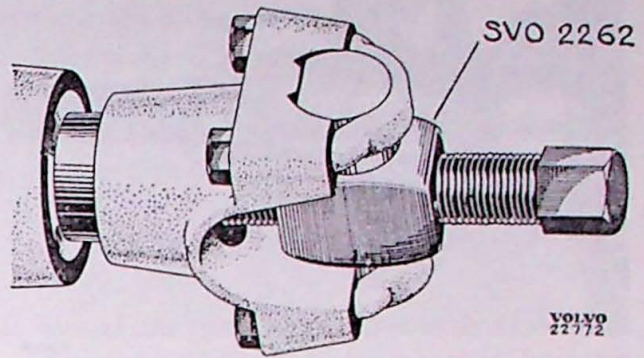
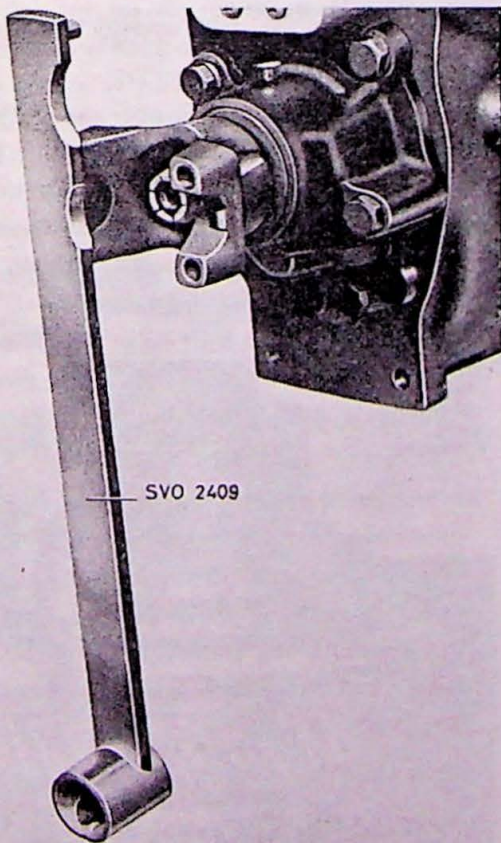

Fig. 3-12. Removing coupling
Fig. 3-11. Counterhold for coupling
2. Unscrew the nut for the coupling (19, illustration III-A). Use key SVO 2409 as counterhold, see Fig. 3-11. Pull off the coupling with puller SVO 2262, see Fig. 3-12.